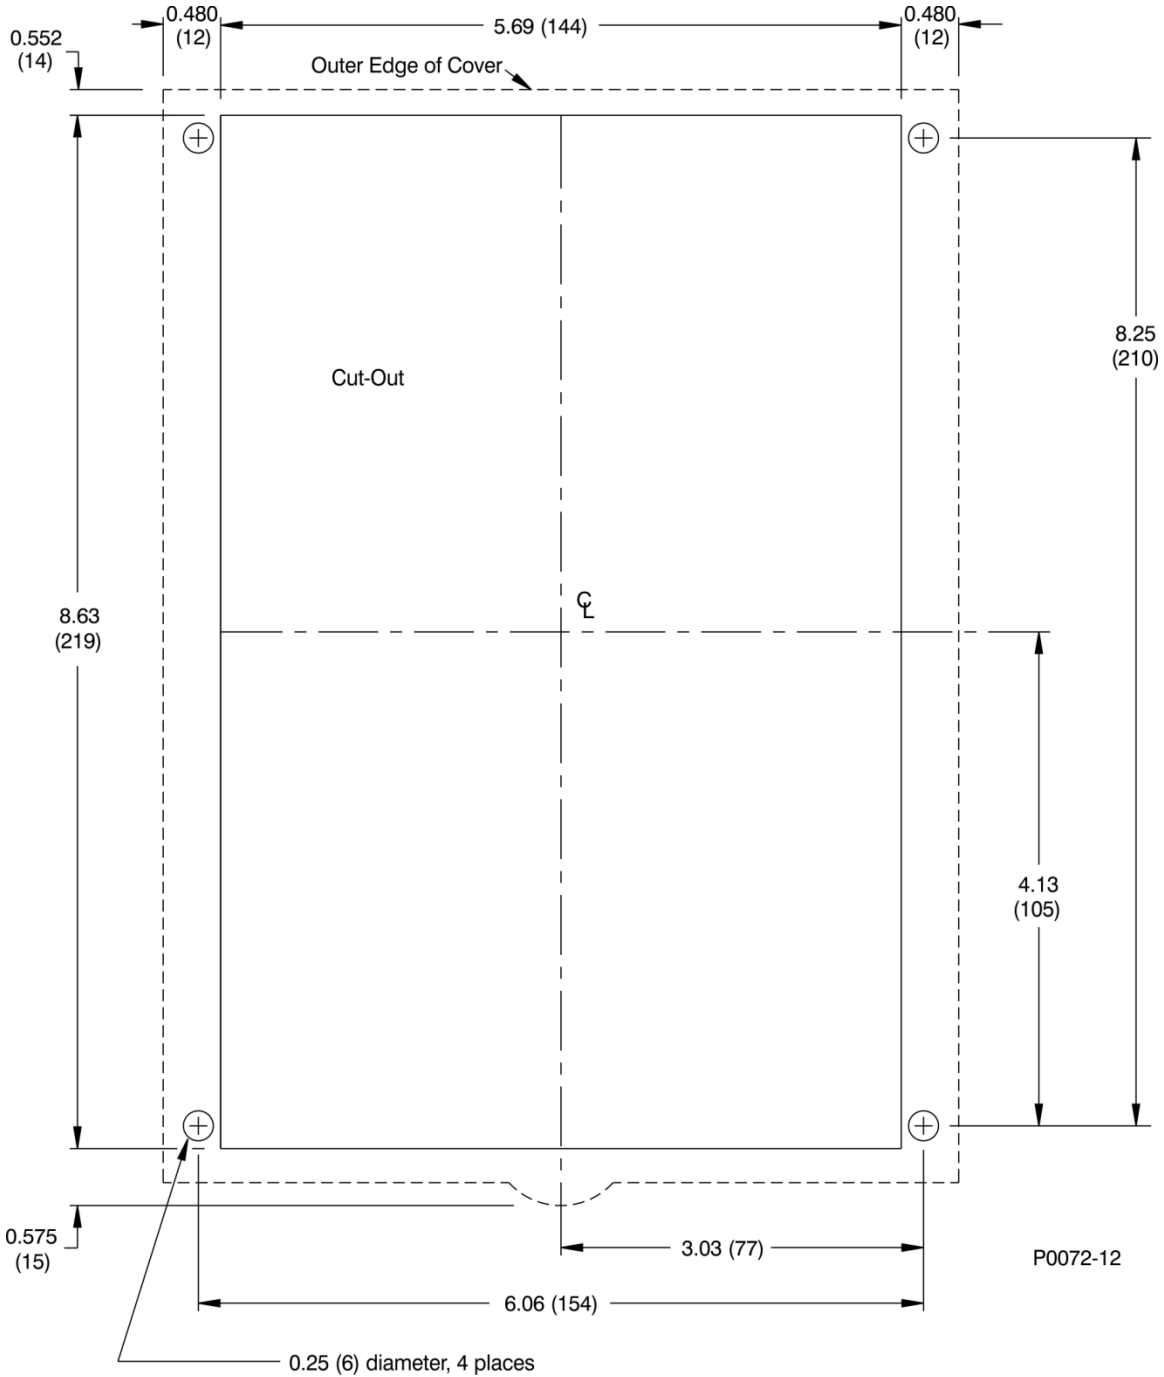

Figure 4-1. Panel Cutting/Drilling, Semi-Flush, S1 Case
- Figure 4-1: Panel Cutting and Drilling, Semi-Flush S1 Case